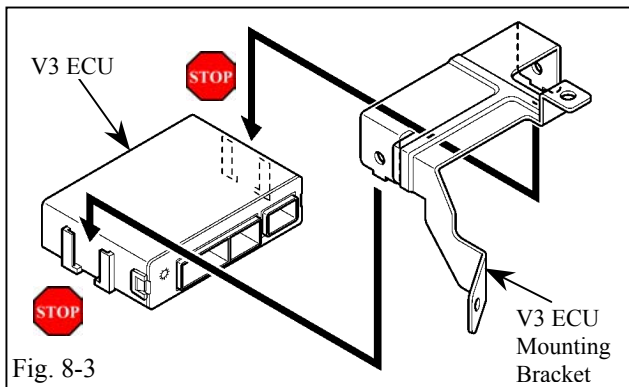

Fig. 8-3
- (c) Insert the V3 ECU mounting bracket into the indicated bracket slot on the V3 ECU. (Fig. 8-3)